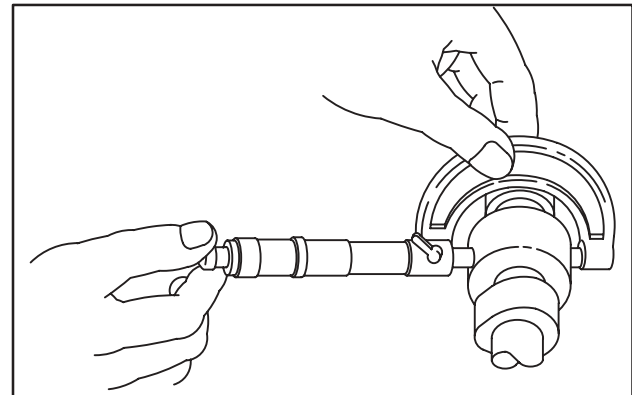

Fig. 12 – Checking Camshaft Journals
2. Measure camshaft journals, Fig. 12.